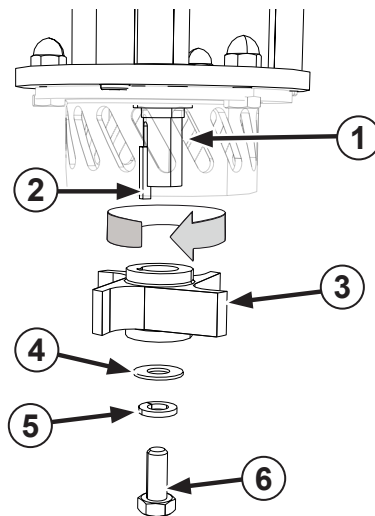

Figure 10. Impeller Rotor
**NOTE:** It is important to install the impeller rotor in a specific orientation, see rotation in Figure 10. Impeller Rotor below.
1. Install the key (2) into the keyseat on the shaft (1)
2. Noting the specific orientation, see rotation in Figure 10. Impeller Rotor. Align the key to the keyway on the impeller rotor (3) and install to the shaft.
3. Secure with a flat washer (4), split washer (5), and cap screw (6) and tighten to specification. See "Information Tables" on page 42.